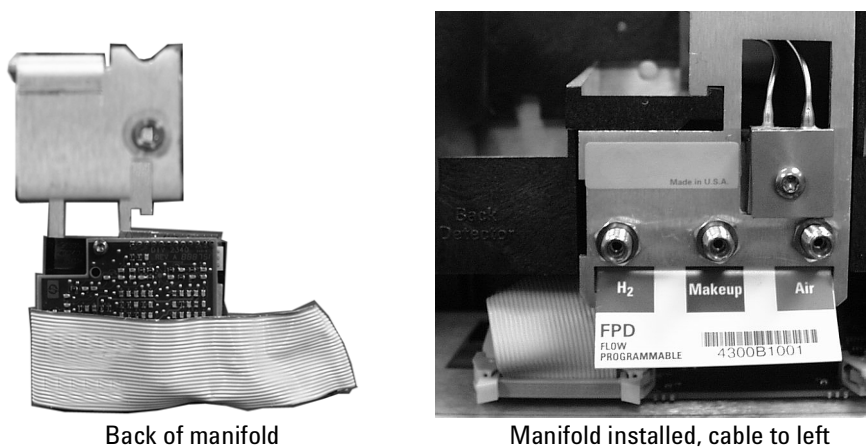
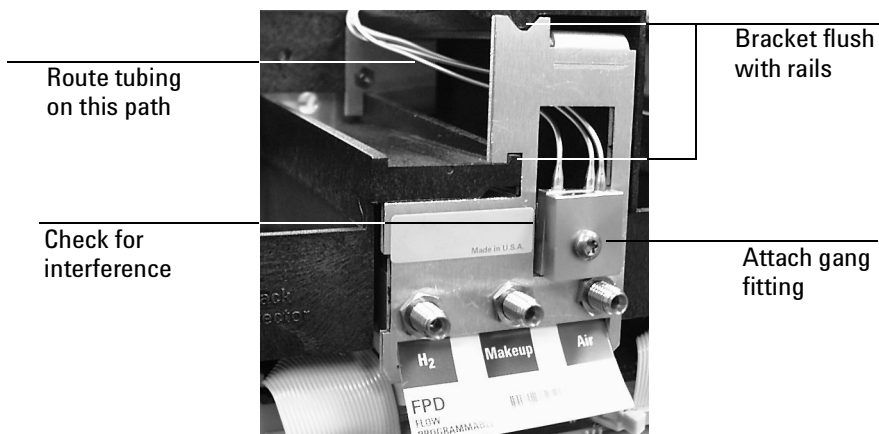

Figure 3. Routing the ribbon cable
Figure 4. Manifold, after installation
3. Peel the blank label from its backing and paste it on the mounting bracket over the screw heads. See Figure 3.
4. Shape the tubing from the gang fitting so that it bends up and back from the block as shown in Figure 4.
5. Route the ribbon cable behind the manifold assembly as shown in Figure 3. Then, slide the manifold and bracket assembly into the slot until the bracket seats flush against the end of the rails. See Figure 4.
- **Detector in the back position.** Route the tubing behind the manifold, over the top of the chassis, and through the slots as shown in Figure 4.